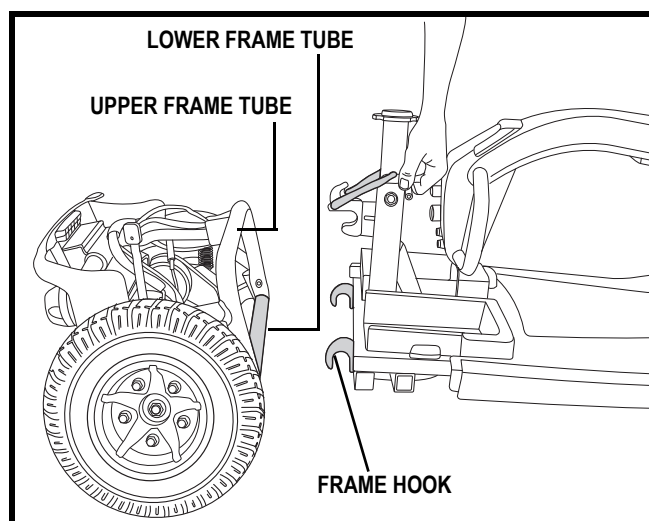

Figure 27. Frame Separation
2. Lift the front section up until the frame hooks of the front section separate from the rear section. See figure 27.
3. Slowly separate the two sections. See figure 27.
1. Position the front and rear sections of your scooter as shown in figure 27.
2. Use the frame release lever to lift the front section as you align the frame hooks of the front section with the lower frame tube of the rear section. See figure 27.